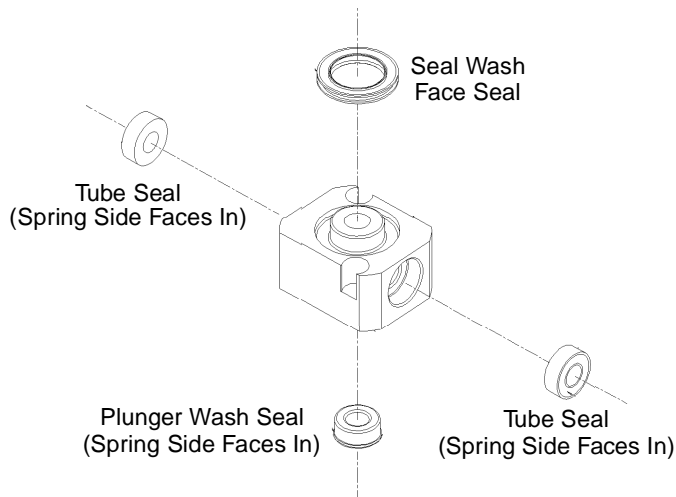

Figure 7-4 Seal Wash Assembly Seals
2. Use the plastic end of the seal removal tool to remove the plunger wash seal from its seat. Repeat this procedure for each of the tube seals (Figure 7-4).
3. Use the plastic tweezers to remove the seal wash face seal (Figure 7-4).
5. Place the new plunger wash seal on the seal insertion tool with the spring side facing away from the seal insertion tool (see Figure 7-4) and insert the tip of the tool into the seal opening, then push firmly to install the seal. Repeat this procedure for each of the tube seals.
6. Install the new seal (Figure 7-4) by pressing the seal into the cavity with your thumb.